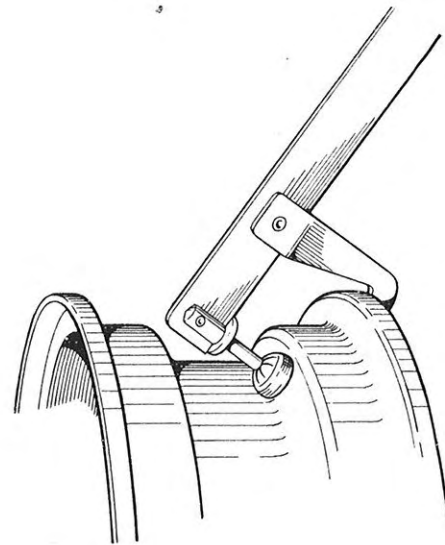

Fig. 15. Fitting snap-in valve
2. Fit the valve, using a special tool, see Fig. 15. Push the valve into the hole by pressing the tool handle upwards. The valve must be pressed in so far that its inner flange seals against the inside of the rim, and the outer flange is entirely outside the rim.